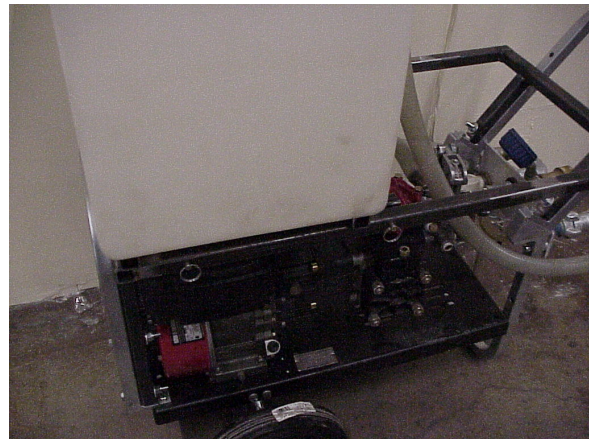

Figure 4
4. Line up the holes on the new frame and the water tank frame. Install quick release pins as shown (Figure 4).